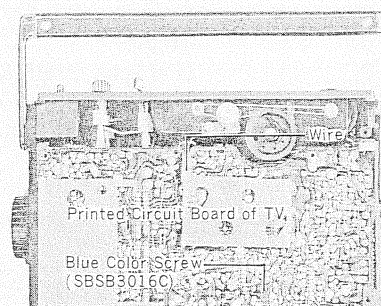

Fig. 6
3. Unfasten a blue color screw fastening printed circuit board indicated in Fig. 6, and disconnect the wires connected to UHF antenna terminals and the wire between printed circuit board of TV and radio (Fig. 6).